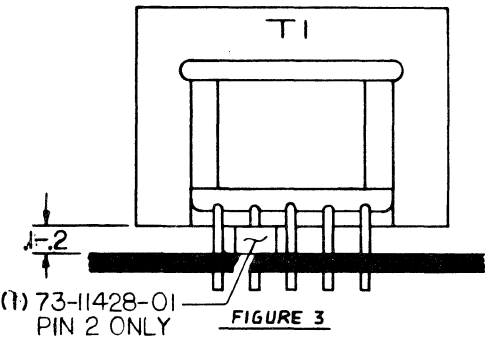

FIGURE 3
7. MOUNT T1 AND OBSERVE CORE HEIGHT AS SHOWN IN FIGURE 3.